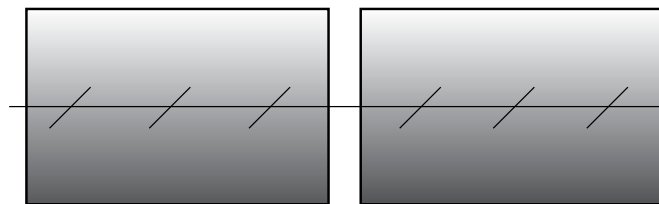

Fig. 6-3
- Identify and mark the center line on each belt end. This is a reference point for drawing the fingers and for belt alignment once the fingers are cut (Fig. 6-3).